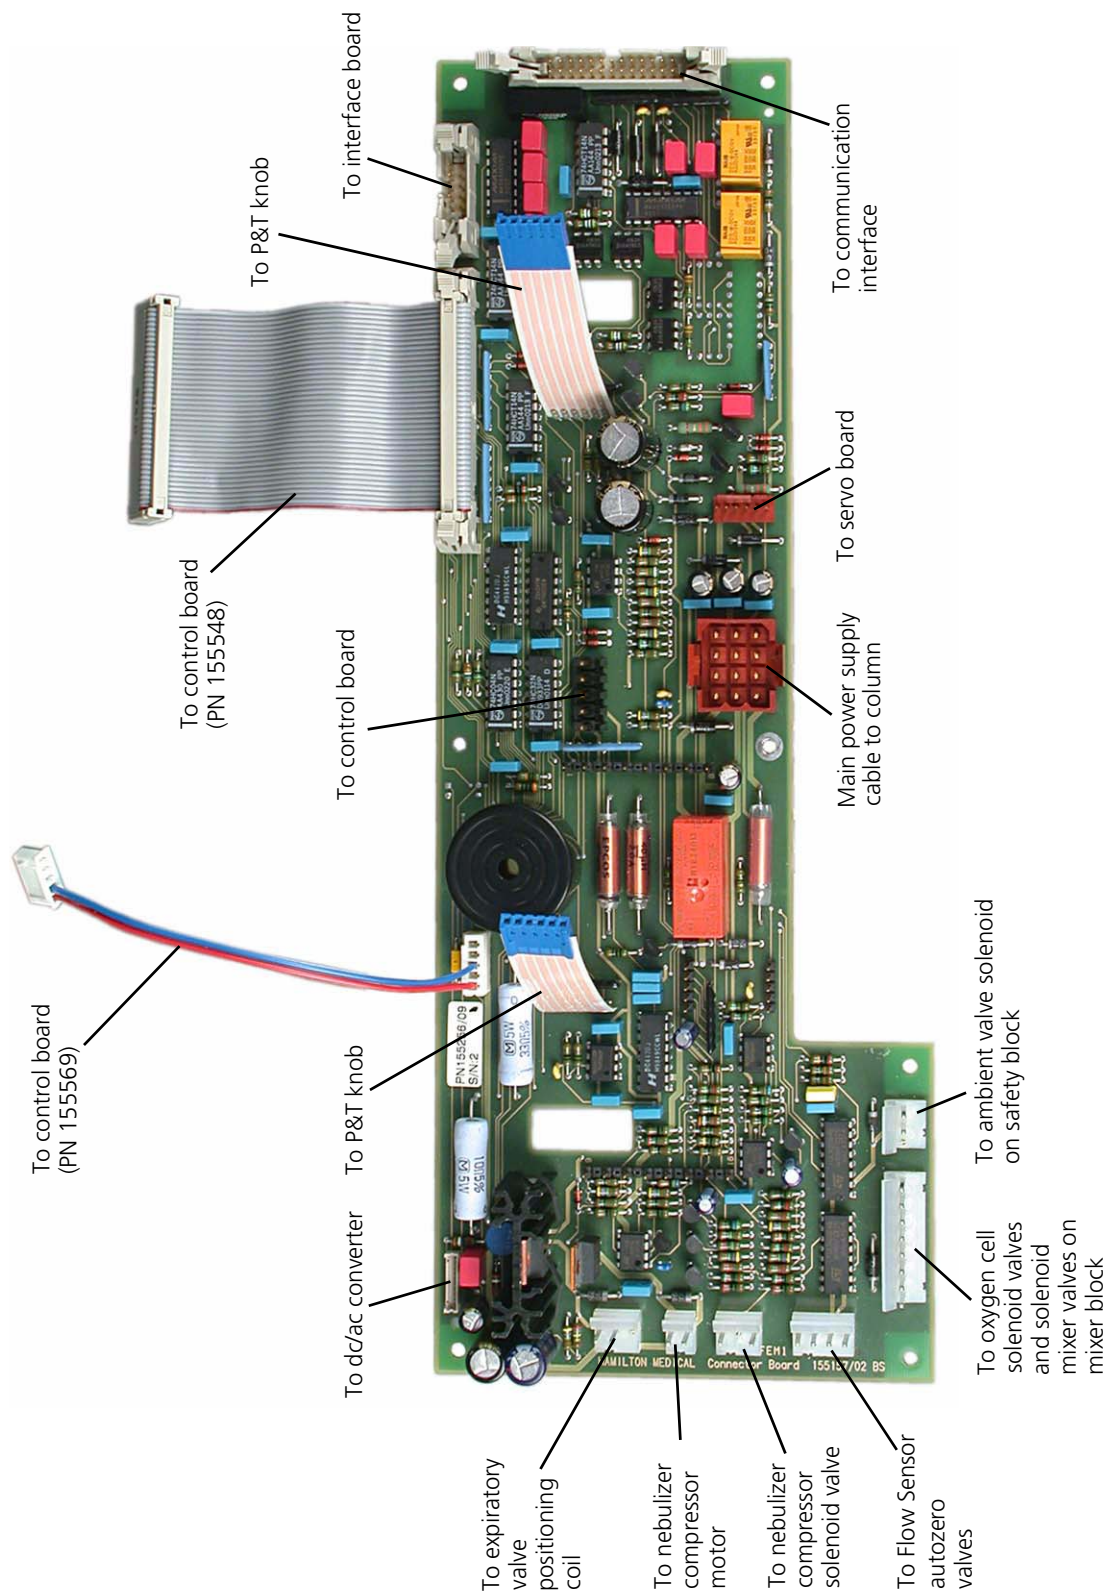

Figure 11-45. Cable connections to connector board PN 155256 Rev 9 and later
- Figure 11-45 on page 11-43 shows connections for the slightly different revision 09 and later boards. These are supplied complete with cables PN 155548 and PN 155569.